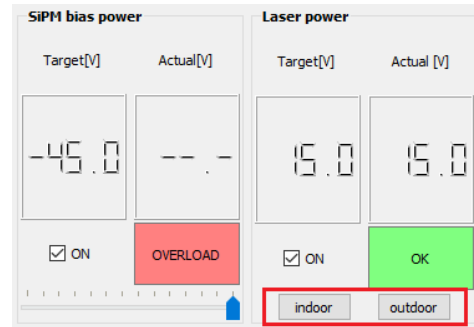

Figure 13. Overload Condition for Reference SiPM at High Ambient Illumination (Outdoor)
- Select the *SiPM bias power ON* (☒) as well as *Laser power ON* (☒) checkboxes as shown in Figure 13. Actual voltages shown should be within ± 0.2 V interval from target voltages. Two *OK* status labels with green background should be displayed.
- Under certain circumstances (high ambient light intensity) SiPM bias power may enter overload state indicated by red background label. If so, reduce the SiPM bias power target voltage by clicking *outdoor* button or using horizontal slider. The overload protection has to be cleared by deselecting *SiPM bias power ON* (☐) checkbox before SiPM bias power is turned on again (Figures 13, 14).